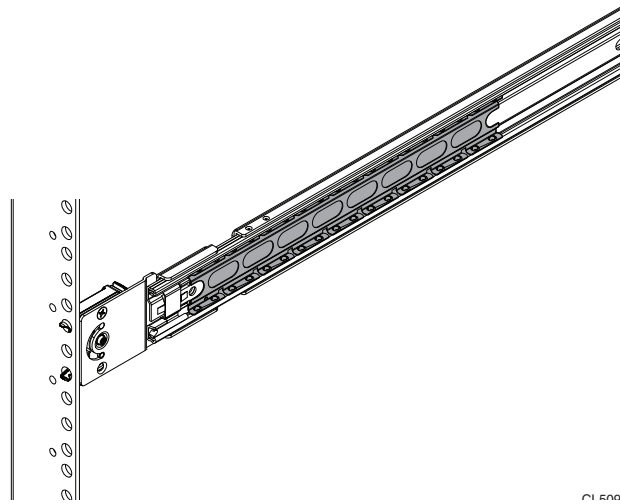

Figure 69 Correct location for ball bearing retainer assembly
1. On each slide rail bring the ball bearing retainer assembly fully to the front, so it rides onto the security knob (Figure 69).